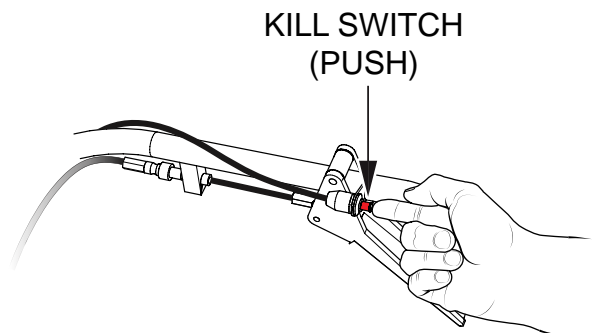

Figure 31. Safety Kill Switch
1. Push the power buggy's kill switch inward (Figure 31) and listen for the engine to stop.